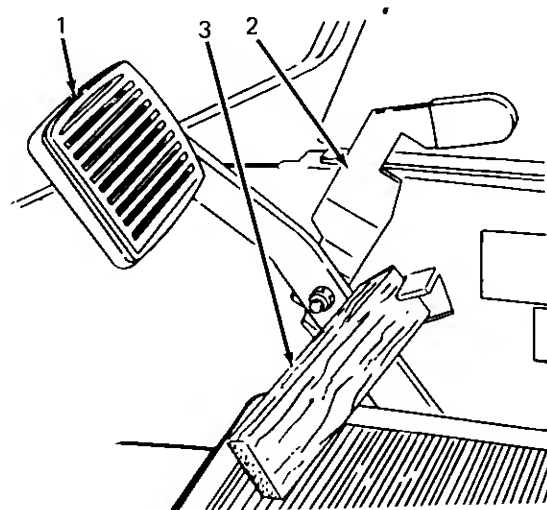

Figure 25
1. To check brake adjustment, place a 1/2 inch thick wood block between the single brake pedal and the brake pedal lock (see Figure 25).